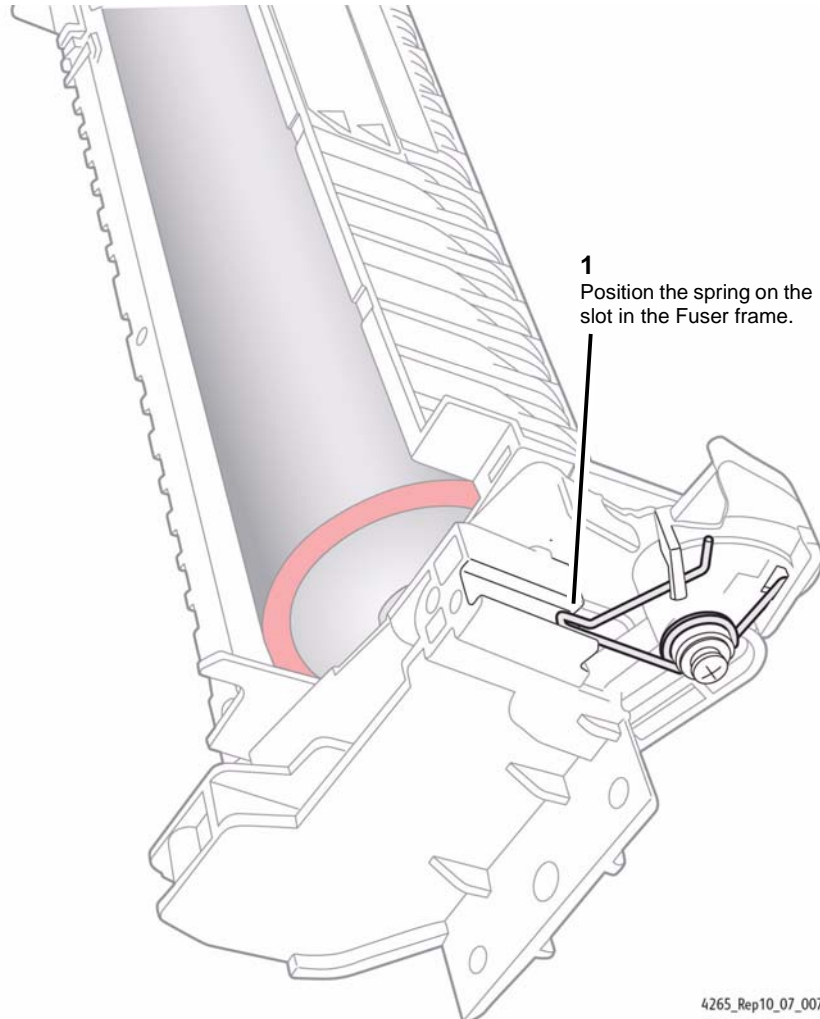

Figure 7 Positioning the Front Jam Lever Spring on the Fuser Frame
2. Position the spring on the Front Jam Lever in the slot on the Fuser frame (Figure 7).